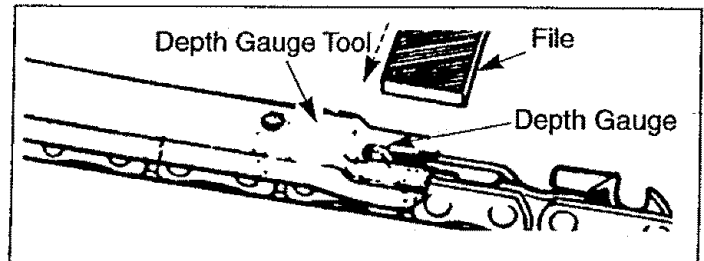

Figure 21
## SHARPENING CHAIN (Fig. 21, 22, 23, 24, 25, 26 & 27)
- To check depth gauge, place gauge tool on cutter. If the depth gauge projects above the tool, then file it level to the top of the depth gauge tool. See Figure 21.